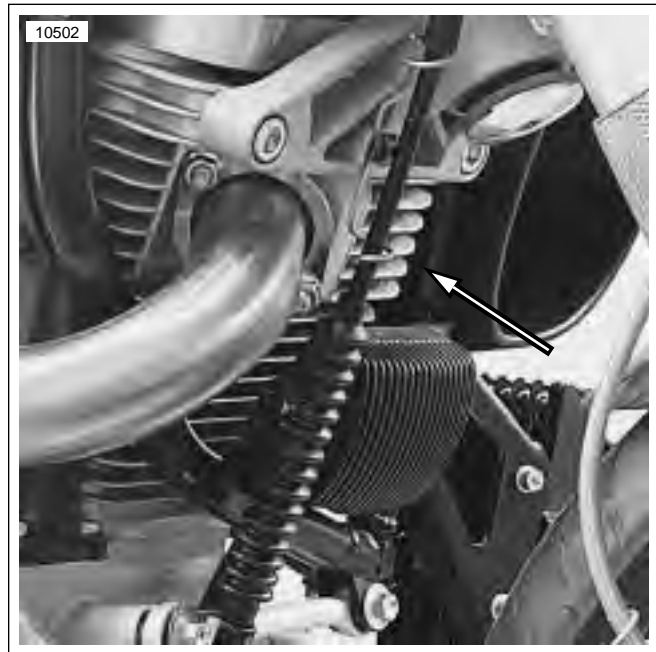

Figure 3-53. Clutch Cable Wire Form Retainer
35. See Figure 3-53. Pull clutch cable back up into the proper position.